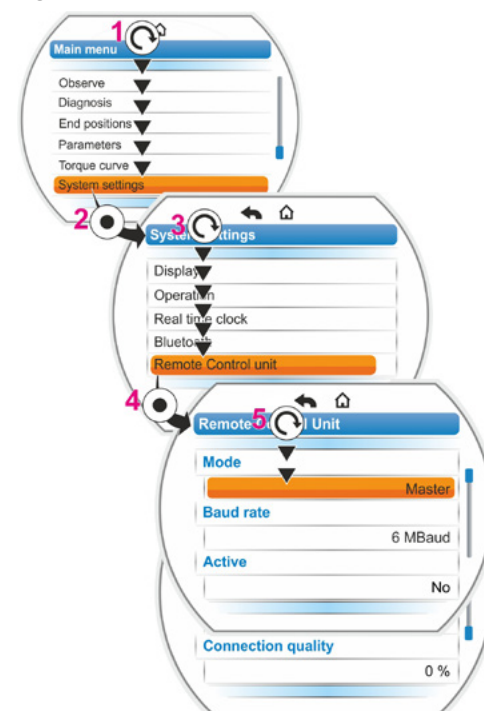

Fig. 3: Activate remote control unit
1. Select 'System settings' in the main menu (fig. 3, item 1) and confirm (item 2).